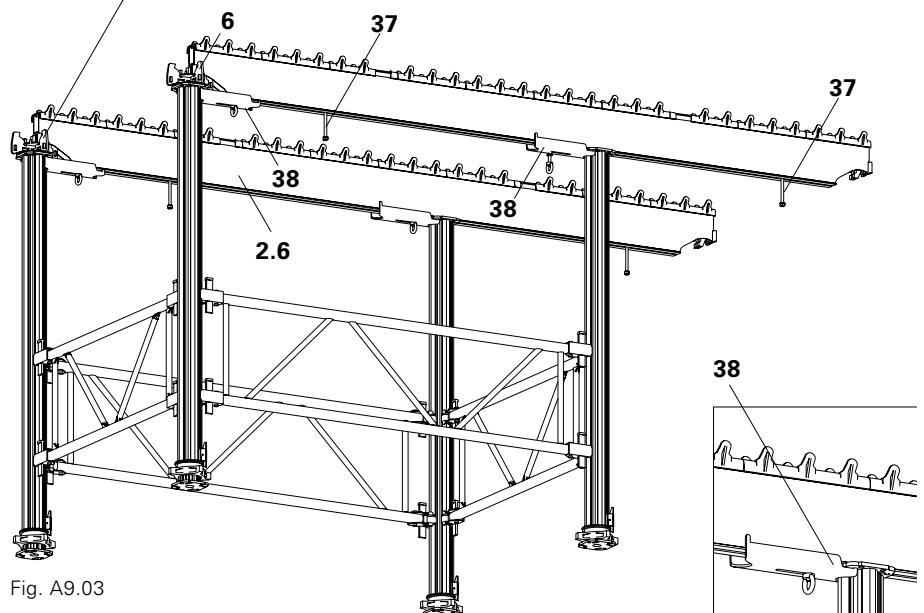

Fig. A9.03
- Use two Bolts M12 x 140 DIN 6914 (37) for fixing timbers 8/12.
- 2 x Table Connector STV (38).
- Sequence and alignment of bolts and table connectors: see Fig. A9.03.